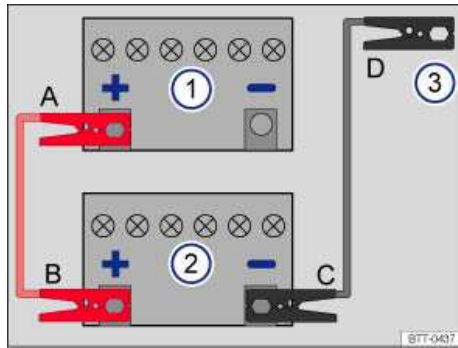

Fig. 173 Diagram for attaching the jumper cables: Dead battery 1 and booster battery 2.
⇒ fig. 173 A – B – C – D.
3. Attach one end of the *red* jumper cable to the **positive terminal (+)** of the dead battery: (1) ⇒ ⚠.
4. Attach the other end of the *red* jumper cable to the **positive terminal (+)** of the good battery (booster battery): (2).
5. Attach one end of the *black* jumper cable to the **negative terminal (-)** of the booster battery: (2) ⇒ fig. 173.
6. Attach the other end of the *black* jumper cable (3) to a **bare metal part of the vehicle with the dead battery**. This part should be connected directly to the engine block. You may also attach the cable to the engine block itself or to the towing eye installed on the front of the vehicle ⇒ *Towing*. Attach the clamp to a point that is as far away as possible from the dead battery (1) ⇒ ⚠.